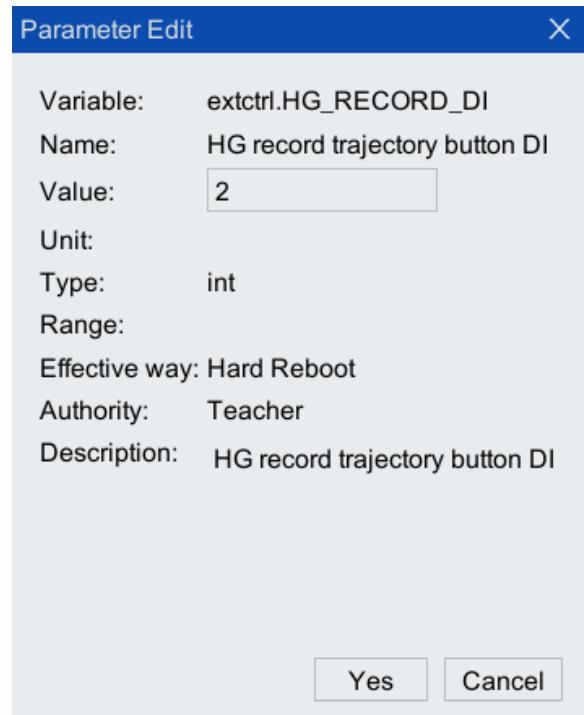

Figure 6-4 Drag teaching record track button DI configuration interface
Step4. Click and select [HG_RECORD_DI (drag the teaching record trajectory button DI)], click <Edit>, and the interface shown in Figure 6-4 will pop up. Configure the [Value] to the specified DI port number (for example, configure it to 2), and click <Yes>.